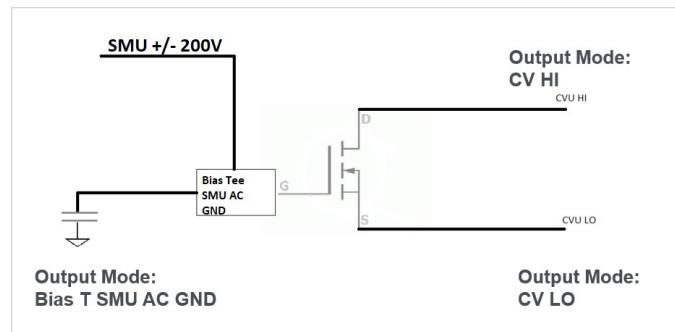

Figure 7: Bias Tee SMU AC GND Channel Configuration
- **BiasT SMU AC Gnd:** This is the bias tee mode with an AC ground configuration. This combines the DC bias from a 4200-SMU or 4210-SMU with local AC ground through the 4200A-CVIV bias tee circuit. A typical application for this configuration would be when performing C-V measurements on the drain to the source of a MOSFET while applying a DC bias to the gate, just like shown in **Figure 7**. AC signals at the gate would have a ground return path.